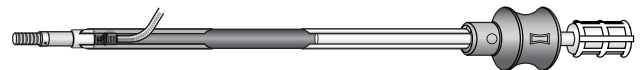

Figure 23: Pusher position at IPG final placement.
9. While maintaining the position for the pusher, retract the Pocketing Needle towards the Pusher to ensure the Pulse Generator and Receiver Assembly is deployed into the tissue pocket. See Figure 23.